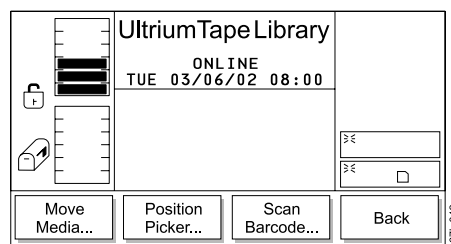

Figure 151. Move Submenu
2. Press the button below the **Move** softkey. The Move Submenu displays (see Figure 151).
8. To return to the Move Submenu (see Figure 151 on page 133), press the button below the **OK** softkey. To return to the Main Menu press the button below the **OK** softkey, then press the button below the **Back** softkey until the Main Menu displays.